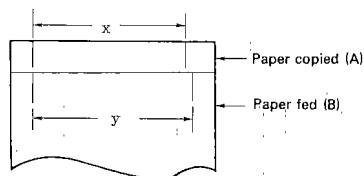

Figure 4-11
- 2) Use the copy paper with lines as a document, and make a copy. (A)
- 3) Place a blank sheet of paper on the copyboard, and feed the copy paper with lines; in the manual feed mode. (B)
- 4) Align the left lines of the paper copied (A) and paper fed (B), and adjust the position of the mirror 1 mount so that lengths x and y in Figure 4-11 are identical.